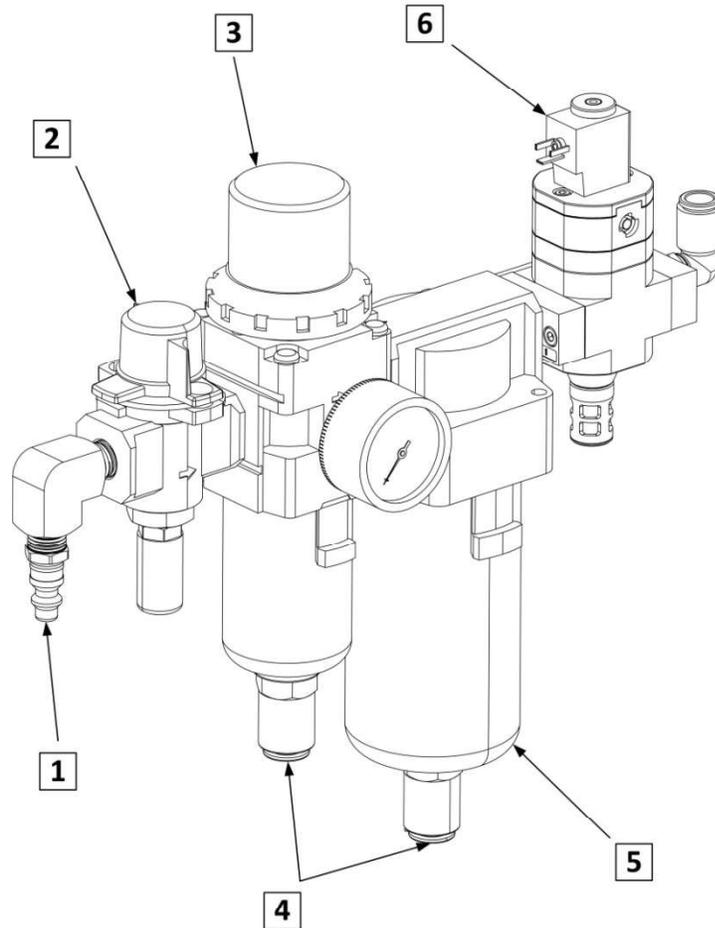

FIGURE 4-23. FRL ASSEMBLY
2. Confirm that the corresponding E-STOP message and location appears on the HMI display. Refer to Figure 4-23.